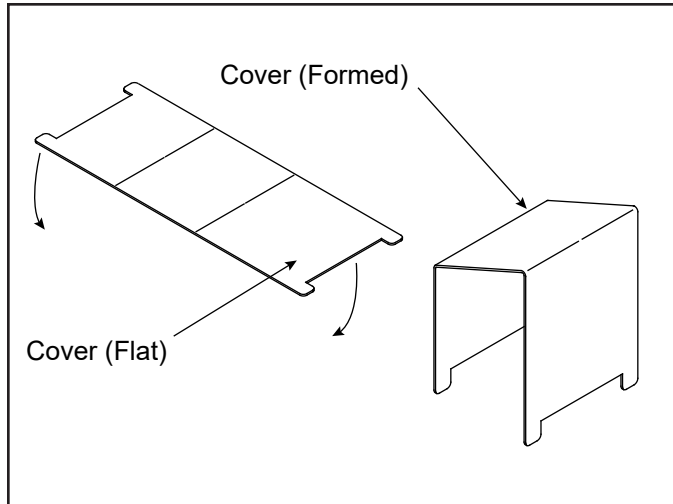

Figure 8.3 Component Covers
1. Form Covers as shown. See Figure 8.3